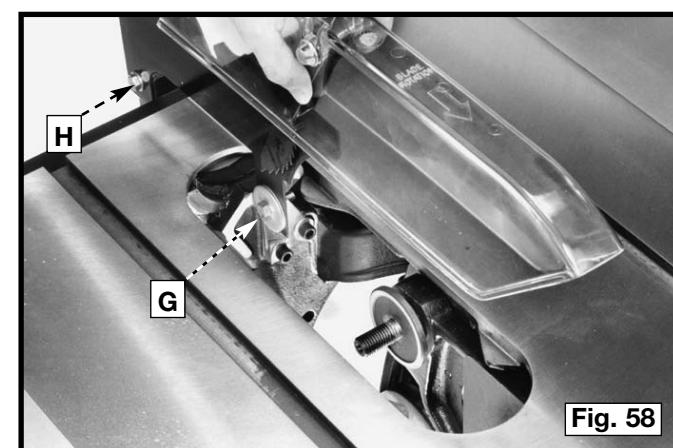
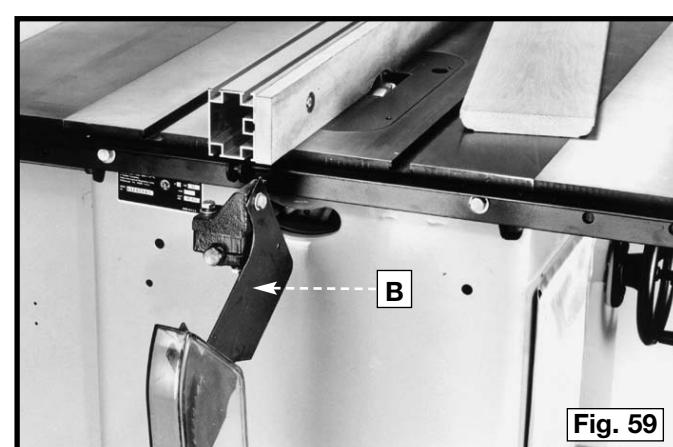

Fig. 58
Fig. 59
CAUTION For certain cutting operations (dadoing and moulding) where the workpiece is not cut completely through, the blade guard and splitter assembly cannot be used. Loosen screws (G) and (H) Fig. 58. Lift up and swing blade guard and splitter assembly (W) Fig. 59 to the rear of the saw and retighten (H).
2. When using the moulding cutterhead, add wood-facing (C) to the face of the rip fence (Fig. 59). The wood-facing is attached to the fence with wood screws through holes which must be drilled in the fence. Stock that is 3/4" inch thick is suitable for most work, although an occasional job may require 1 inch facing.